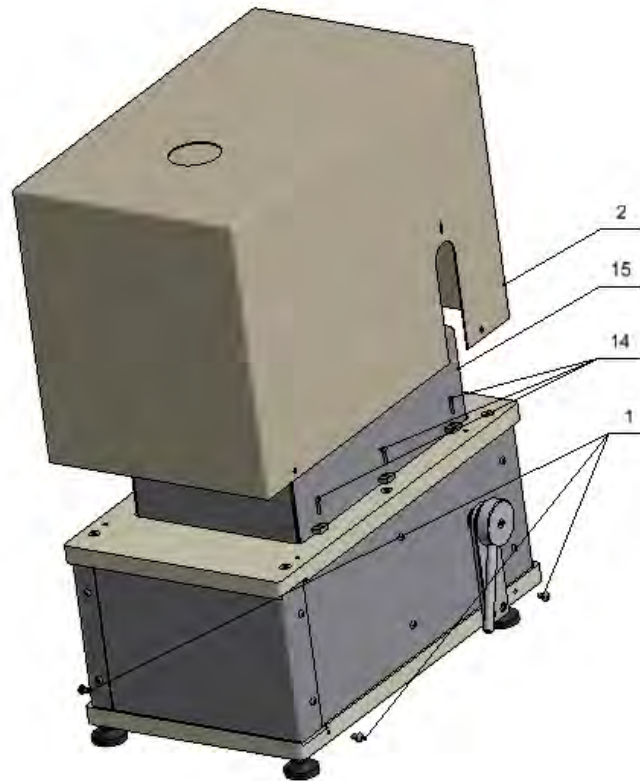

Fig.9
14. Using six M3 screws (14), fix lid assembly for top shield (15). (Fig.9)
15. Assembly housing (2) and fix it using four M5 screws (1). (Fig.9)